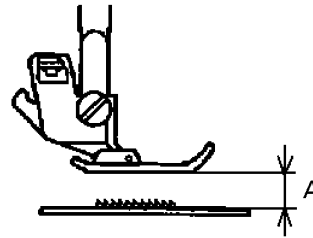

Fig.1
3. Measure the clearance (A) between the presser foot and the surface of needle plate. (Fig. 1)
A = 5 to 6 mm (Fig. 1)